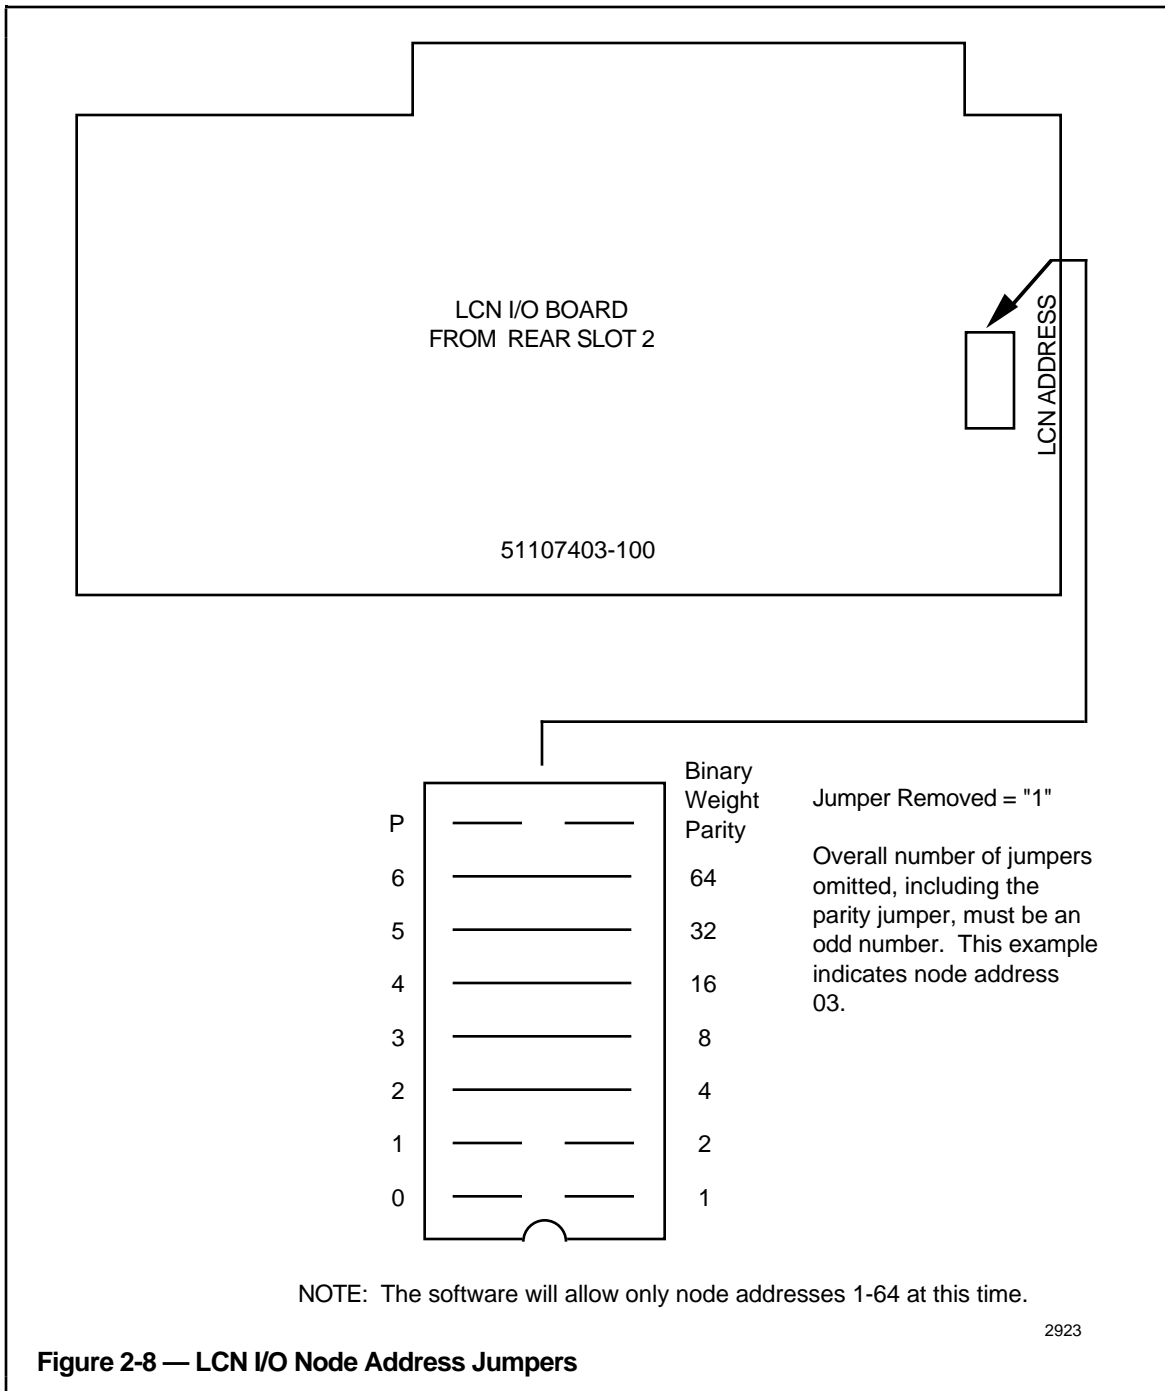

Figure 2-8 — LCN I/O Node Address Jumpers
If the LCN I/O or K2LCN board is replaced on site, or if an additional module is added, the new board or module (including the Universal Work Station) must be set up for the node it will occupy; for example, Figures 2-8 and 2-10 show the location of the address pack on the LCN I/O board and the K2LCN board, jumpered for an address of three (3).